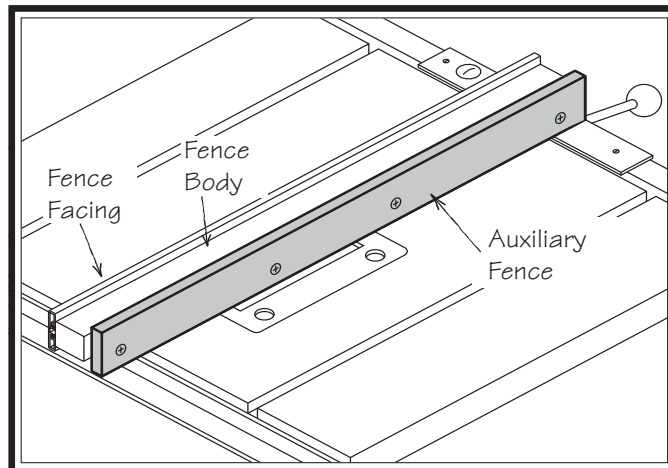

Figure 81. Auxiliary fence.
6. Thread flat head screws through auxiliary fence and into hex nuts and flat washers inside fence body, then tighten securely, as illustrated in **Figure 81**.